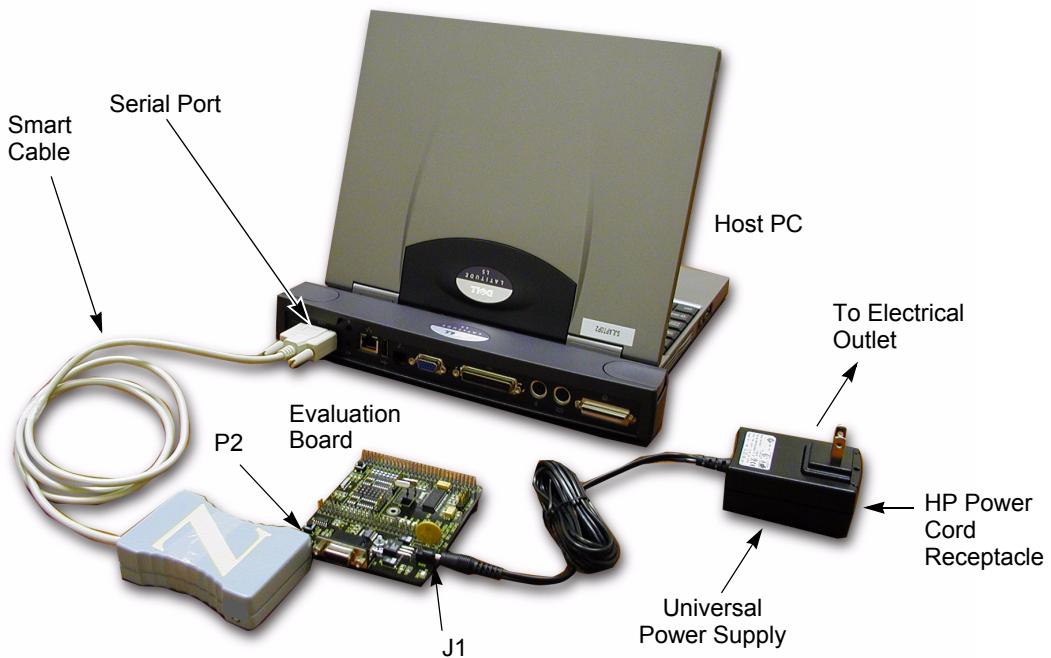

Figure 1. Evaluation Board External Connections
3. Connect the power supply to the evaluation board at J1 (see Figure 1).